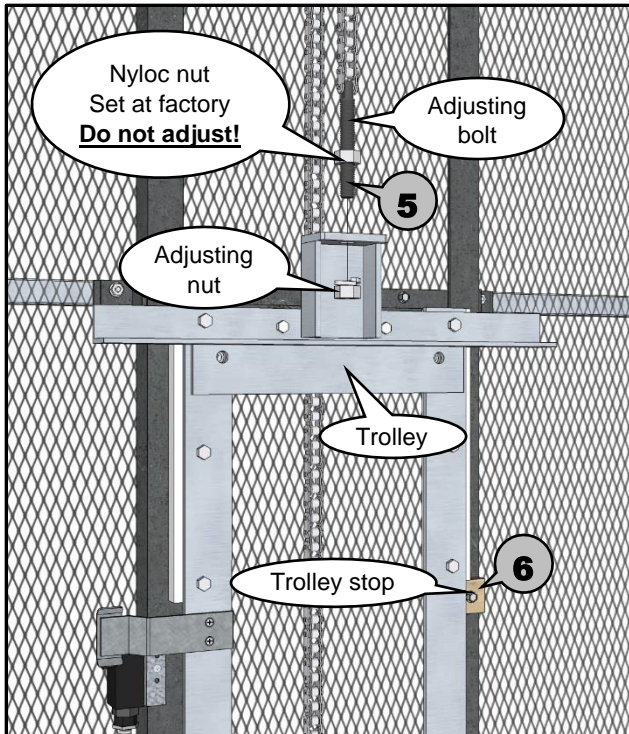

Figure 26
- 5** The other end of the chain with the adjusting bolt should hang down near the top of the trolley. Insert the threaded adjusting bolt, on the end of the chain, into the hole on the top of the trolley where the adjusting nut is tied on. Use the adjusting nut to secure the adjusting bolt to the trolley. Use a blade screwdriver or needle nose pliers to hold chain from twisting and tighten adjusting nut until Nyloc nut is tightly seated against trolley. **Do not adjust taped nut!** (see Figure 26)
- 6** Some machines may have a trolley stop screwed to the track for shipping purposes, and it should be removed at this time. (see Figure 26)